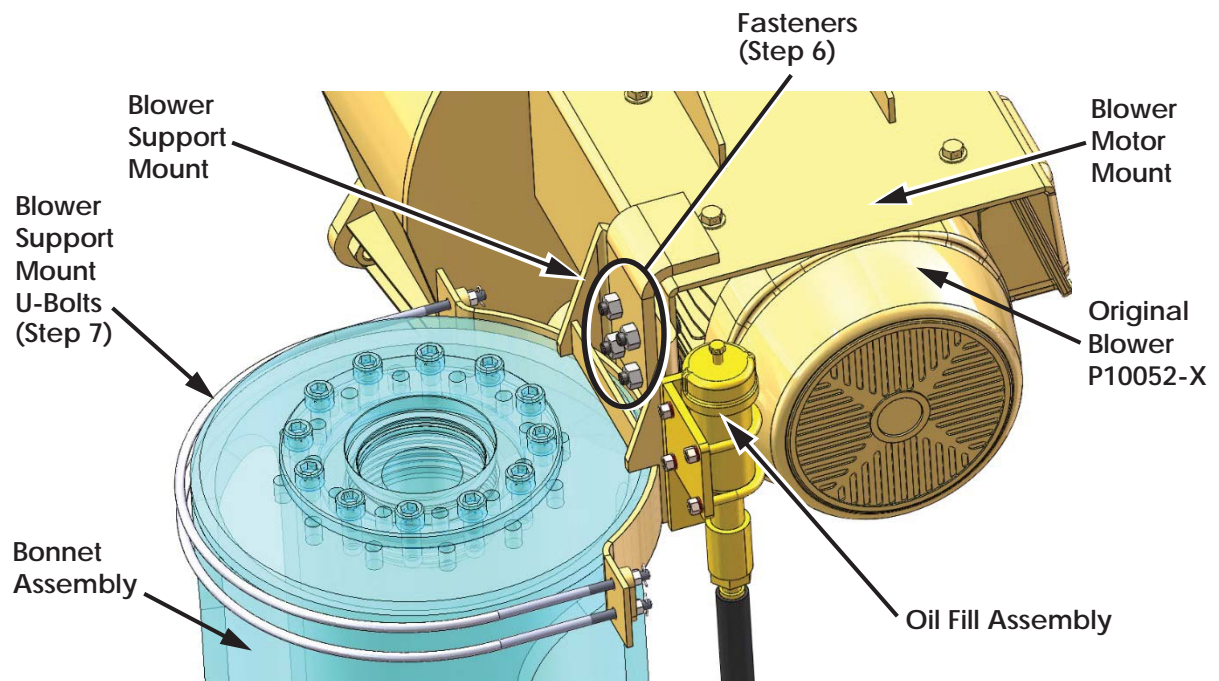

Figure 4: Original Blower Support Plate and Fasteners
- Remove the fasteners attaching the blower support mount to the blower motor mount. See Figure 4.
- Remove the blower support mount U-bolts as shown on Figure 4, only if the new brace will be installed.